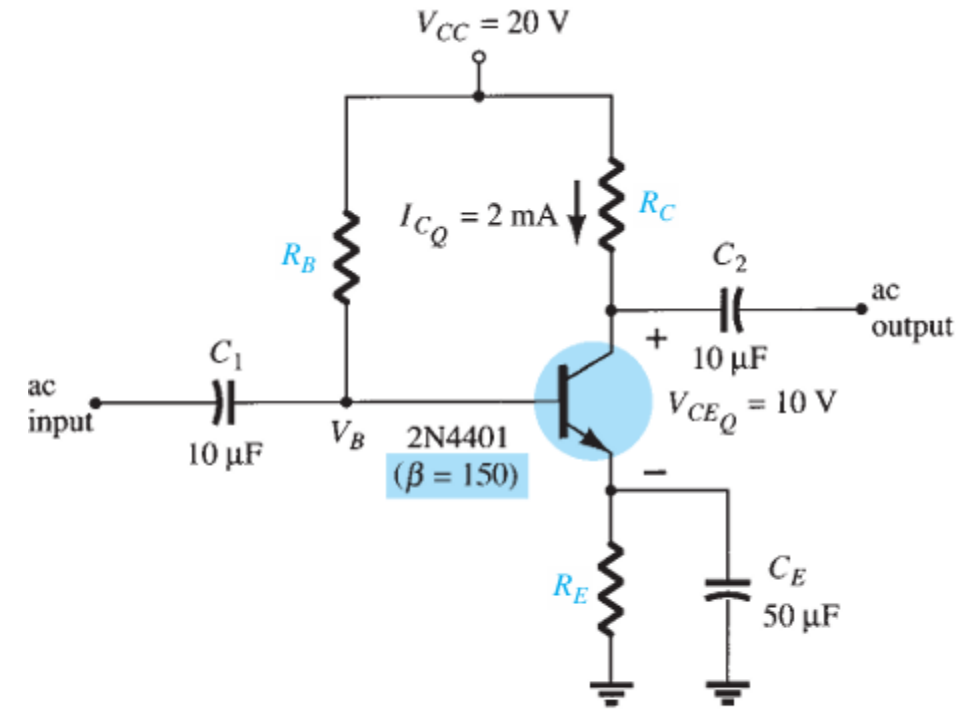

FIG. 4.62
- **EXAMPLE 4.24** Determine the resistor values for the network of Fig. 4.62 for the indicated operating point and supply voltage.